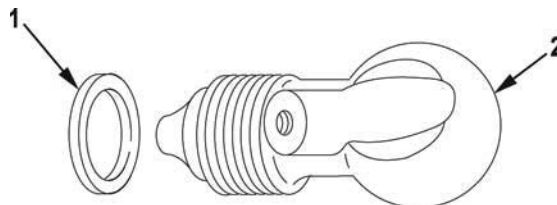

Figure 7. Installation of Thrust Washer Bearing.
2. If removed, install new thrust washer bearing (Figure 7, Item 1) on breech plug (Figure 7, Item 2).